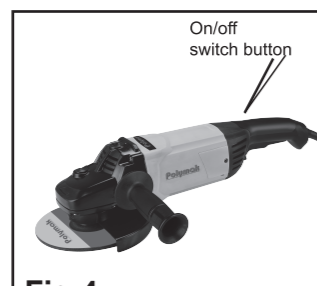

Fig 4
4. SWITCH (see fig 4)
The On/Off trigger switch is sprung in the OFF position. The angle grinder is started by pushing forward the on/off switch. See fig 4. To stop the angle grinder, release the on/off switch and it will return to the OFF position.